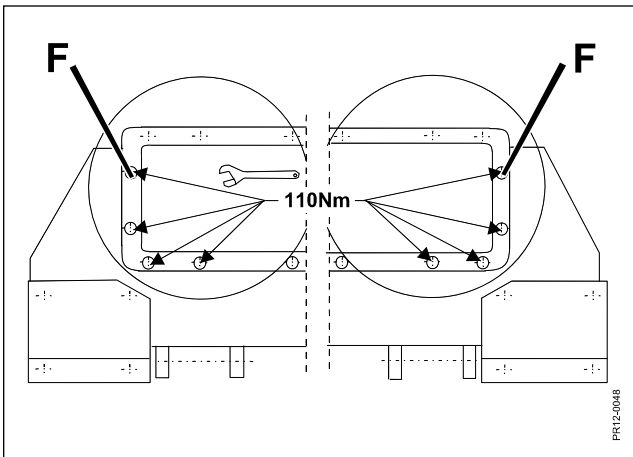

Fig. 5-4
**Fig. 5-4** To avoid damage caused by vibrations in the cutting unit, the cutter bar must be fastened correctly. The 4 bolts **F** in each side must be tightened to 110 Nm (11 Kpm).